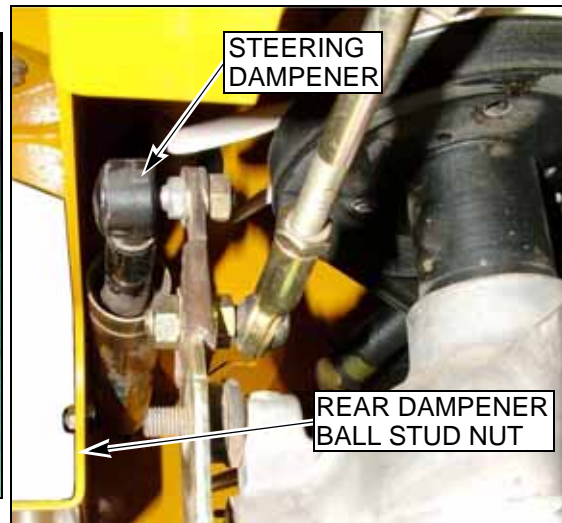

FIG. 14
10. With the engine off, move the RH steering control lever into the neutral position and pull the lever all the way back to the rear of the mower as if you were going full speed in reverse. Now, slowly bring the lever back to the neutral position and lock it into the brake position. This sets the steering damper in the correct neutral position. Tighten the ball stud at the rear of the damper that is attached to the frame side panel on the RH side (FIG. 14). Once this is tightened, you should be able to move the steering control lever to the reverse position, let it go, and the steering lever should return itself to the neutral position. This should finish the adjustment for the RH side steering control. Double check to make sure you have all fasteners tightened to the correct torque specifications.
The steering damper (FIG. 14) is spring loaded to return the control levers to the neutral position from the reverse position. This gives the operator a sense of neutral during operation. If the mower does not return to neutral from reverse then adjust as follows:
3. Loosen the steering damper's rear ball stud (FIG. 14).